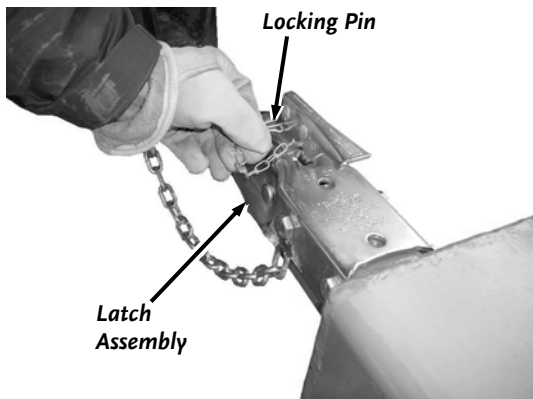

Figure 33
7. For extra safety and security, you may want to purchase a lock to install into the hole of the latch assembly (**Figure 33**).